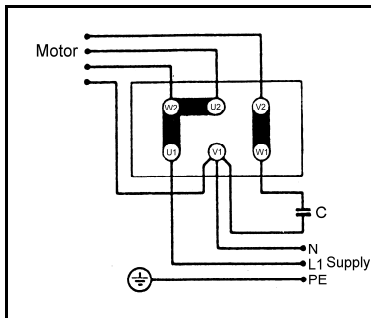
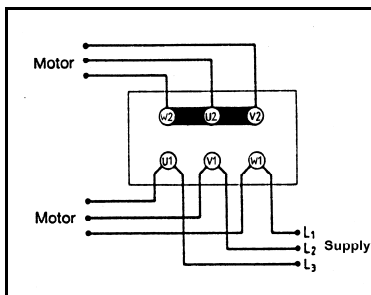

Fig. 3: Circuit diagram single-phase capacitor motor
Fig. 4: Circuit diagram 3-phase motor (Y connection)
**i** The terminal-block connections are to be made as shown in fig. 3 (single-phase capacitor motor) and figs. 4 and 5 (3-phase motor).